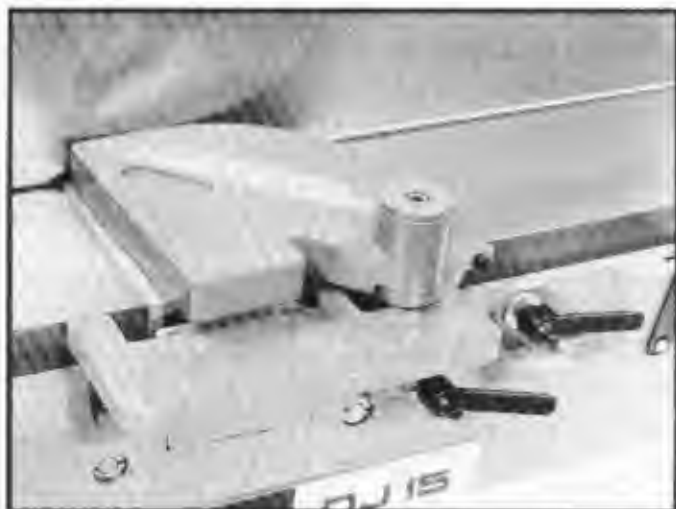

Fig. 9
To assemble the cutterhead guard, insert post (D) Fig. 9, into hole (E) and tighten locking lever (F) against flat on post.
Fig. 9, illustrates the cutterhead guard assembled on the jointer. **IMPORTANT:** Make certain that the guard operates freely and does not bind or hang-up. Always check guard operation before applying power to the jointer.